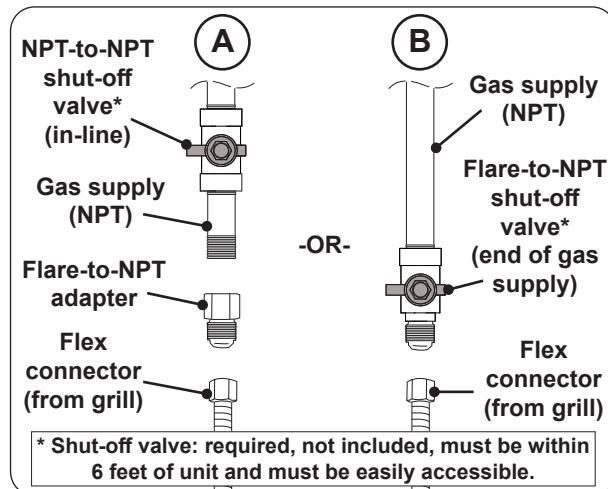

Fig. 30-1 Connecting to a gas line
- Install the supplied flare-to-NPT adapter to the gas supply (NPT) using a pipe joint compound resistant to all gasses (see Fig. 30-1, A). Tighten securely.
- Connect the flex connector to the adapter (see Fig. 30-1, A). Tighten securely.
- Connect the flex connector to the shut-off valve (flare) (see Fig. 30-1, B). Tighten securely.